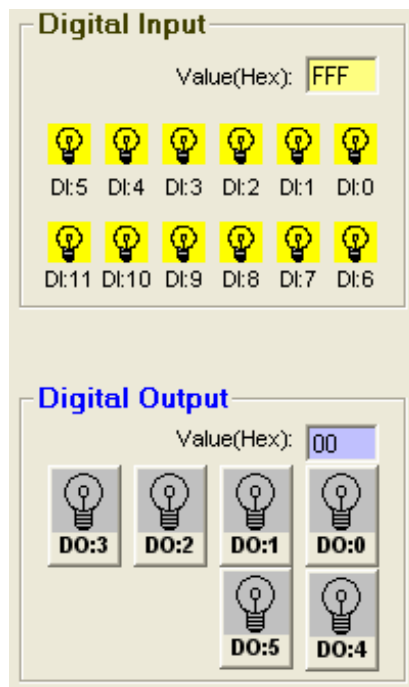

Figure3-10 DI/O status display
**Value:** The current status on each channel of I/O Module. The value of digital I/O modules could be "0" (OFF) or "1" (ON).
**Mode:** Describes the I/O types of the specific module. In addition to monitor the current DI/DO status, the Windows Utility offers a graphical operating interface as Figure3-10. You can read the Digital input status through the change of the indicator icons. Oppositely, you can write the digital output status through clicking the indicator icons.